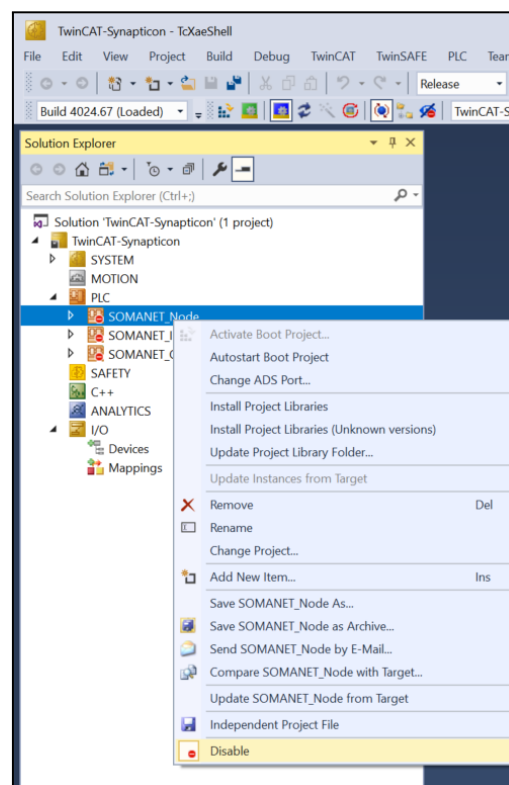

Figure 5.13 - Enabling the project
- c. Select **Disable** as displayed in Figure 5.13 in order to re-enable the project. Note that in the initial shared project, all are disabled by default.